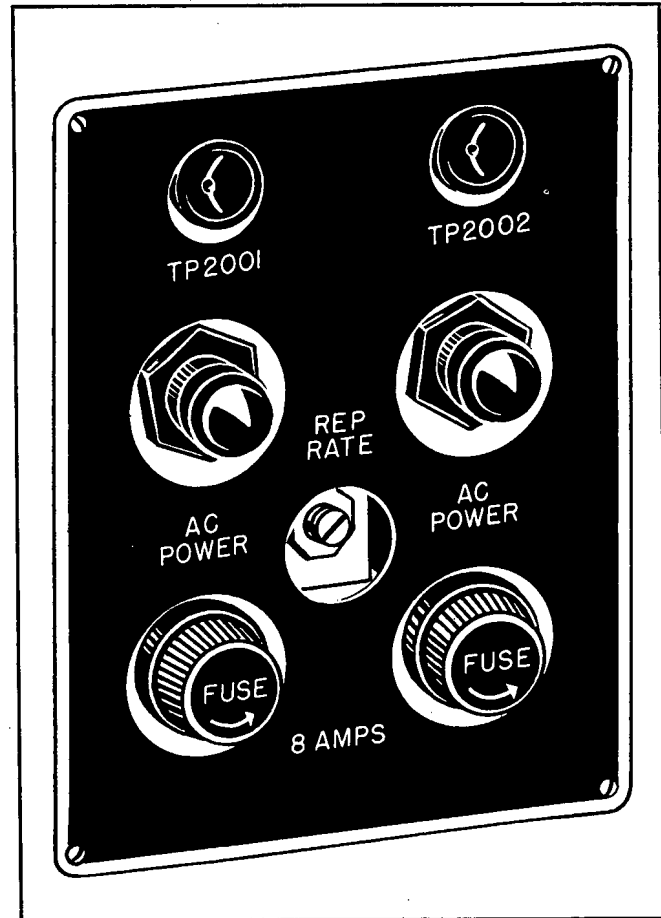

Figure 4-21. Modulator Adjustments
(1) The only difference in the tuning procedures of the SR and SR-a equipments is the elimination of the Keyer adjustments and the substitution for them of the repetition rate adjustment of the Modulator. The following procedure assumes that the equipment has been energized up to the point where the high voltage circuits are ready to be energized.
(2) Place the RADIATION switch in the ON position.
(3) Press the RAISE switch until the PLATE VOLTAGE meter indicates 3.5 kv.
(4) Tune the transmitter as previously described in Par. 5b of this section.
(5) Adjust the repetition rate of the Modulator if the frequency is not 120 cps. Connect the 60 cps line voltage to one set of deflection plates on the oscilloscope and connect the output from J-2004 to the other set of plates. Adjust the REP RATE control R-2001 (see Fig. 4-21) until a two-to-one Lissajou pattern is obtained. This indicates that the repetition rate is twice the line frequency. Another good indication of the correct repetition rate is the behaviour of targets on the Monitor Scope. At 120 cps the targets are steady. At other frequencies they jitter back and forth horizontally at a frequency equal to the difference between 120 cps and the actual repetition frequency.